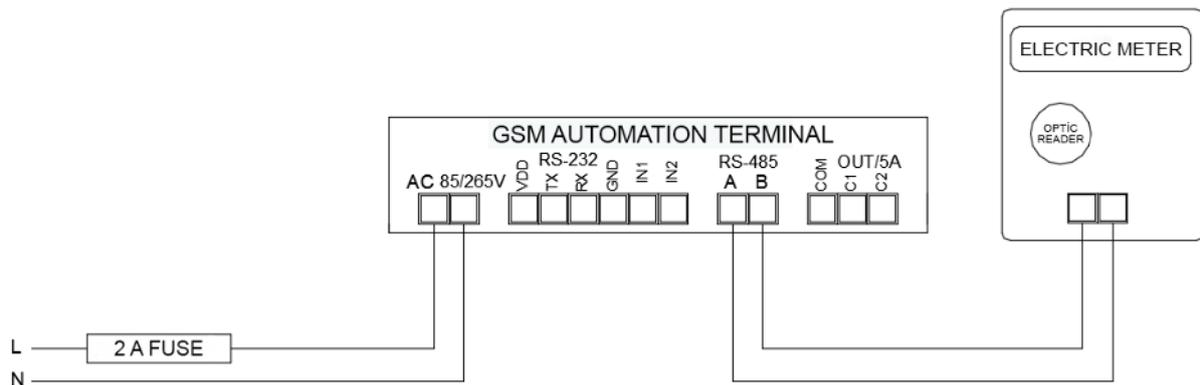

Figure 3.4
- c. Electric Meter / RS-485: See. Figure 3.4; 3.5; 3.6; 3.7; 3.8; 3.9